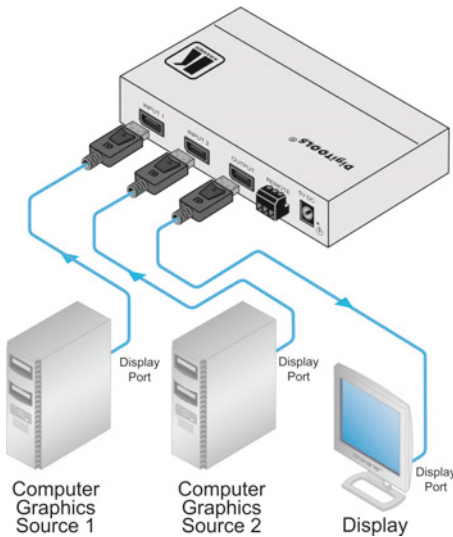

Figure 2: Connecting the VS-21DPIR 2x1 DisplayPort Switcher
To connect the **VS-21DPIR**, as the example in Figure 2 shows, do the following:
3. Connect the 5V DC power adapter to the power socket and connect the adapter to the mains electricity (not illustrated in Figure 2).